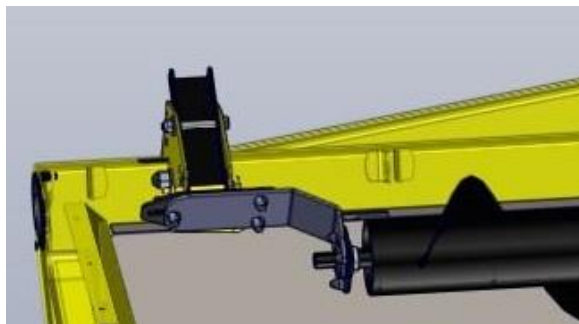

Figure 220
10. Make certain that the auger is centered between the supports and lock the shaft in place with the lock collars. With the center auger on the header, install the yoke on the right-hand auger. Install the bearing mount on the end of the shaft and secure the bearing mount to the tab on the frame. Do not tighten any hardware at this time. Figure 220